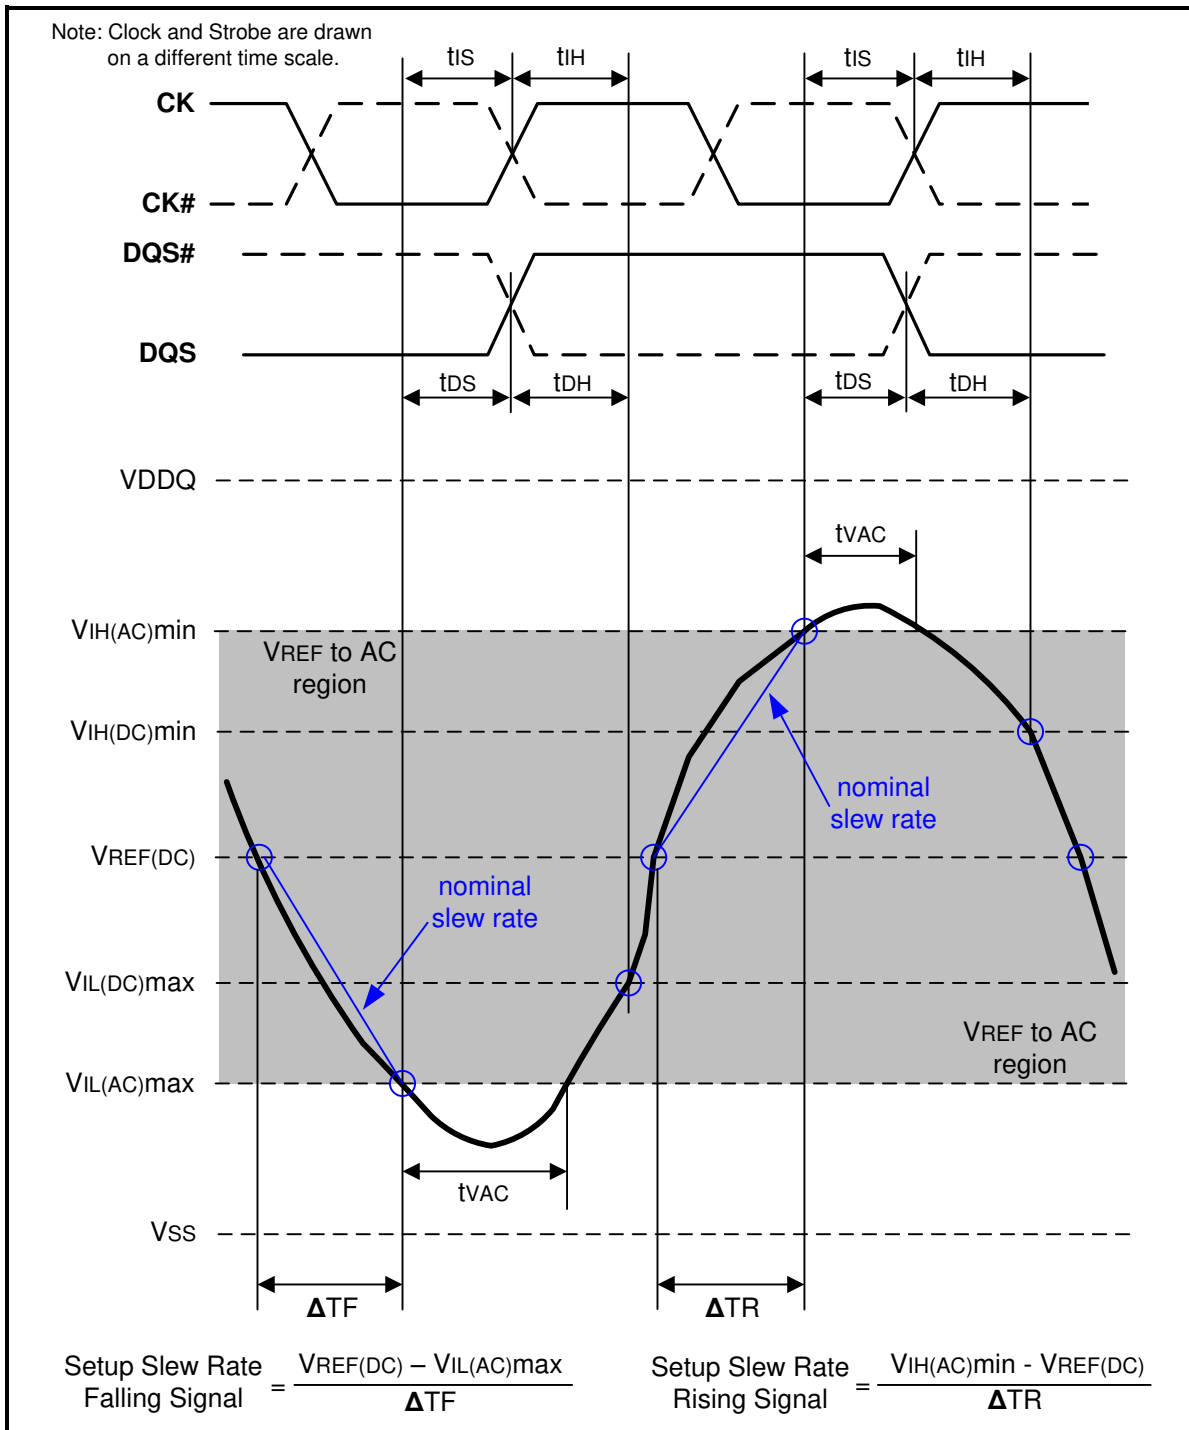
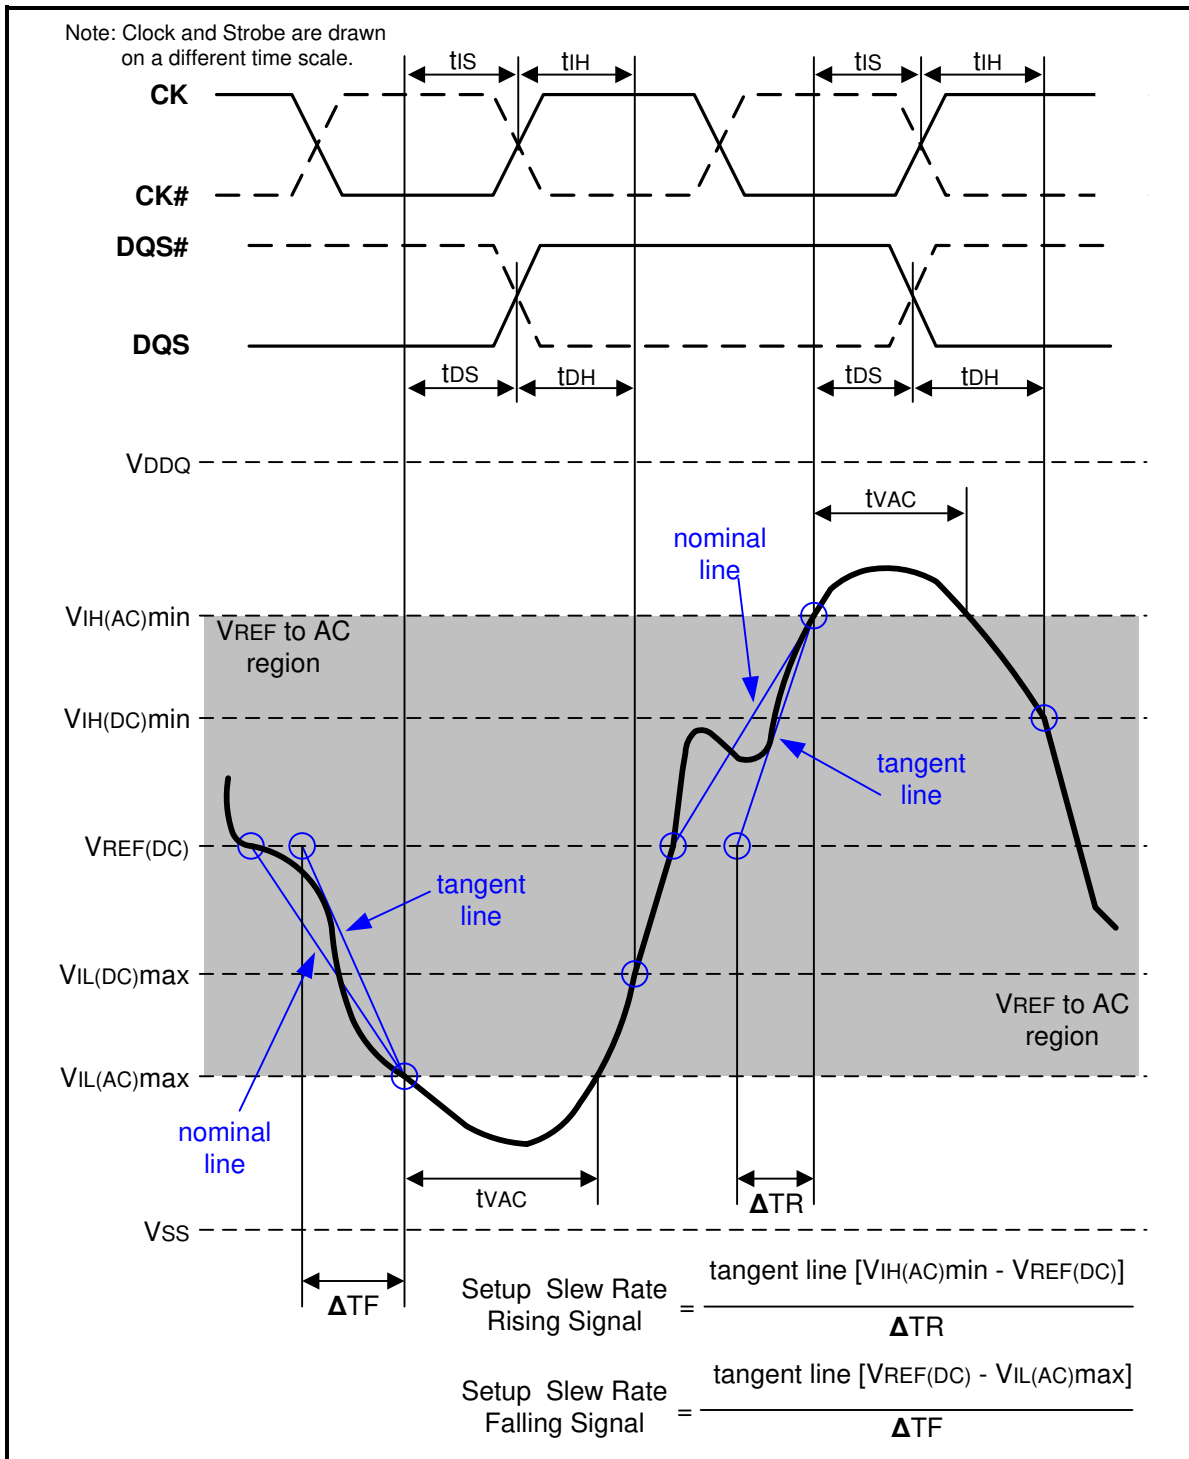

Figure 107 – Illustration of nominal slew rate and tvAC for setup time tDS (for DQ with respect to strobe) and tIS (for ADD/CMD with respect to clock)
Figure 109 – Illustration of tangent line for setup time tDS (for DQ with respect to strobe) and tIS (for ADD/CMD with respect to clock)
Setup (t_{IS}) nominal slew rate for a rising signal is defined as the slew rate between the last crossing of $V_{REF}(\text{DC})$ and the first crossing of $V_{IH}(\text{AC})_{\text{min}}$. Setup (t_{IS}) nominal slew rate for a falling signal is defined as the slew rate between the last crossing of $V_{REF}(\text{DC})$ and the first crossing of $V_{IL}(\text{AC})_{\text{max}}$. If the actual signal is always earlier than the nominal slew rate line between shaded 'VREF(DC) to AC region', use nominal slew rate for derating value (see Figure 107). If the actual signal is later than the nominal slew rate line anywhere between shaded 'VREF(DC) to AC region', the slew rate of a tangent line to the actual signal from the AC level to $V_{REF}(\text{DC})$ level is used for derating value (see Figure 109).
Setup (tDS) nominal slew rate for a rising signal is defined as the slew rate between the last crossing of VREF(DC) and the first crossing of VIH(AC)min. Setup (tDS) nominal slew rate for a falling signal is defined as the slew rate between the last crossing of VREF(DC) and the first crossing of VIL(AC)max (see Figure 107). If the actual signal is always earlier than the nominal slew rate line between shaded 'VREF(DC) to AC region', use nominal slew rate for derating value. If the actual signal is later than the nominal slew rate line anywhere between shaded 'VREF(DC) to AC region', the slew rate of a tangent line to the actual signal from the AC level to VREF(DC) level is used for derating value (see Figure 109).